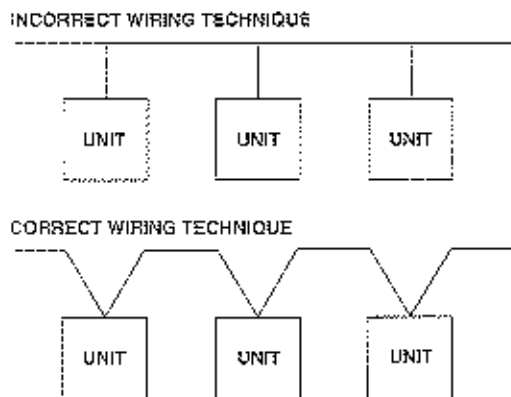

Figure 3 - T-tap
2. Do not use the "T-tap" technique of routing/connecting communication cable as shown in Figure 3 (page 10). This technique may generate RF or electromagnetic interference on the communication circuit.